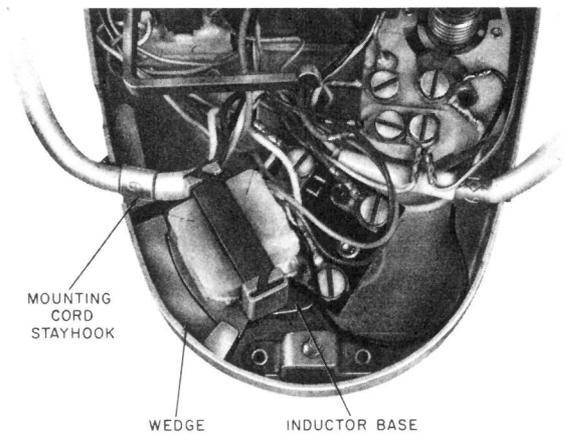

Fig. 8—Top View, Location of Wedge
- (4) Insert wedge in position (Fig. 8).
- (5) Connect inductor between terminals B of network and 3 of terminal board.
- (6) Replace mounting cord stay hook, dial, and housing.